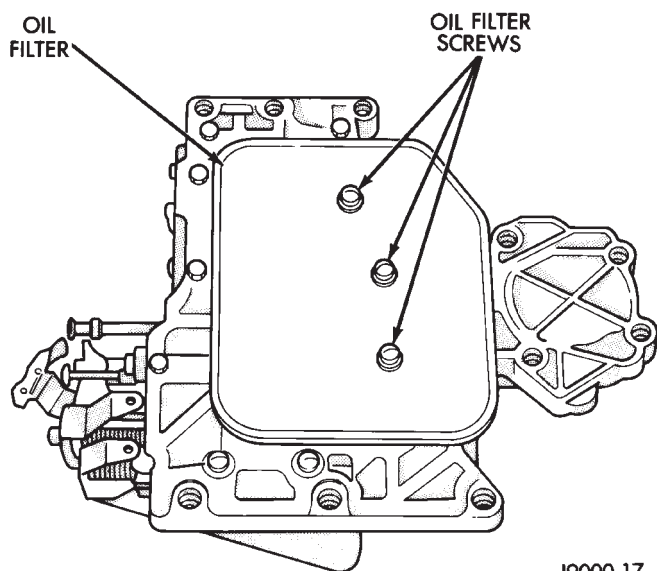

Fig. 8 ATF Filter—Typical
- (3) Remove the screws and the ATF filter (Fig. 8). Discard the filter.